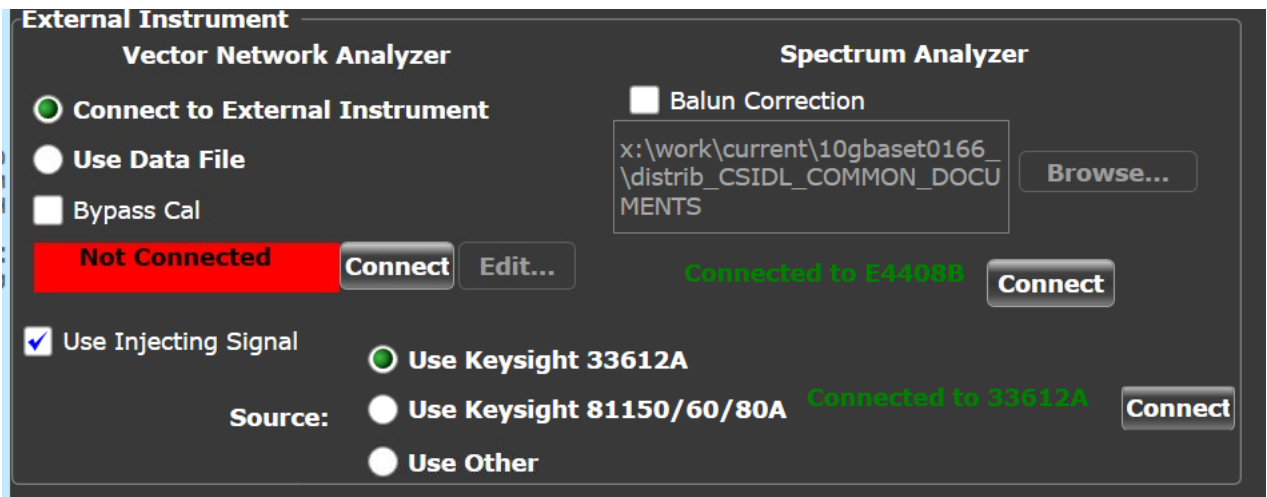

Figure 33 Connected status for Spectrum Analyzer & for Keysight 33612A as Injecting Signal Source
- 17 Once the 10GBASE-T Ethernet Test Application detects the Spectrum Analyzer and Injecting Signal source, it is indicated on the **Set Up** tab as shown in Figure 33.